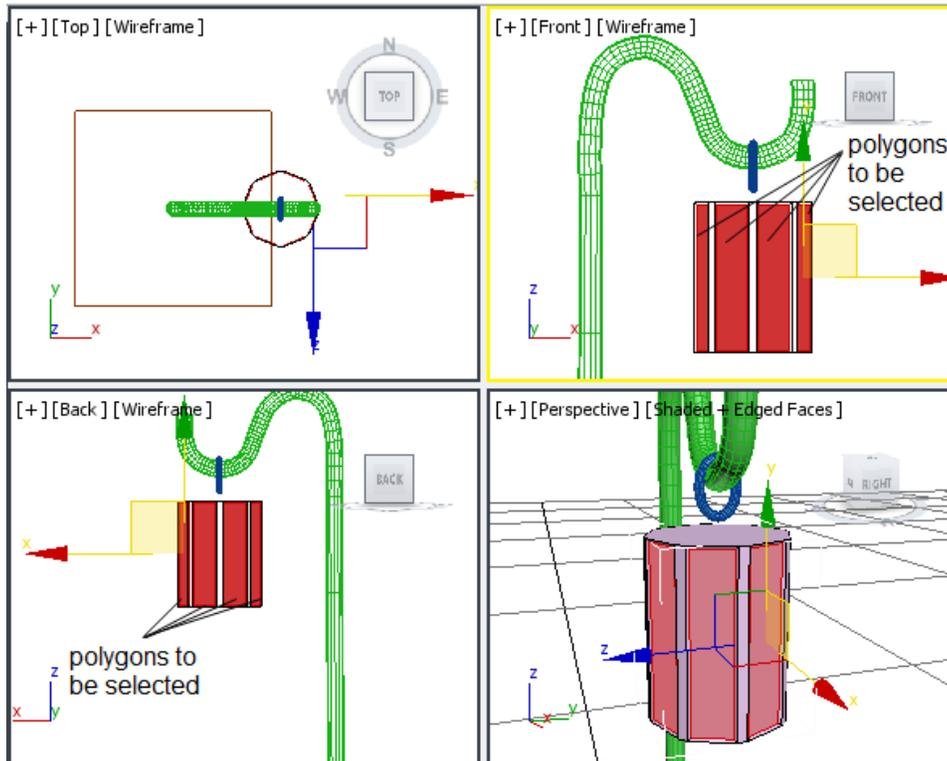

Figure 5-33 The selected polygons between chamfered edges
8. Switch from Left to Back viewpoint. Next, select the **Polygon** sub-object level from the **Selection** rollout and select all polygons between the chamfered edges, as shown in Figure 5-33.